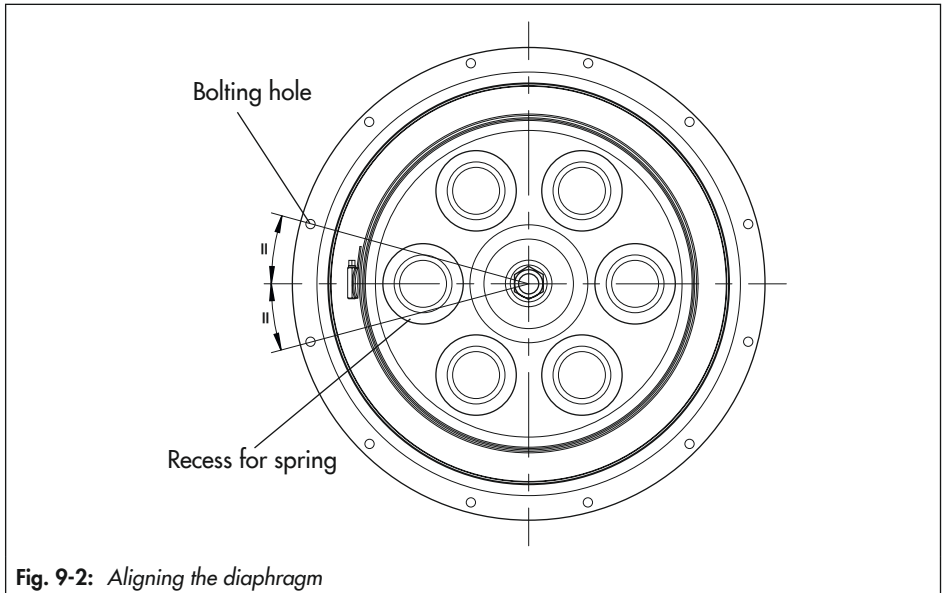

Fig. 9-2: *Aligning the diaphragm*
line through two opposing recesses for springs on the diaphragm plate must be aligned centrally between two bolting holes in the diaphragm (see Fig. 9-2).
Place and align the compressor (A19) beneath the clamp's latch (see Fig. 9-2). Tighten the screw of the latch using a suitable tool. Observe tightening torques.
6. Mount the new diaphragm (A4). Make sure the diaphragm is correctly aligned with the diaphragm plate. The imaginary line through two opposing recesses for springs on the diaphragm plate must be aligned centrally between two bolting holes in the diaphragm (see Fig. 9-2).